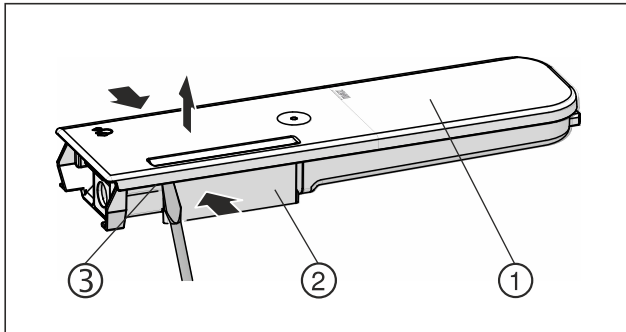

Fig. 160
- Squeeze the water tank Fig. 160 (2) and carefully lever the cover Fig. 160 (1) over the latches Fig. 160 (3) pull it up.
- Slightly move the cover Fig. 160 (1) back and forth and remove it from the top.